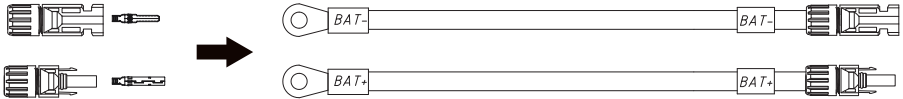

Figure 4.13
1. Take out the two battery connectors from the package and crimp them as shown in the Figure 4.13.